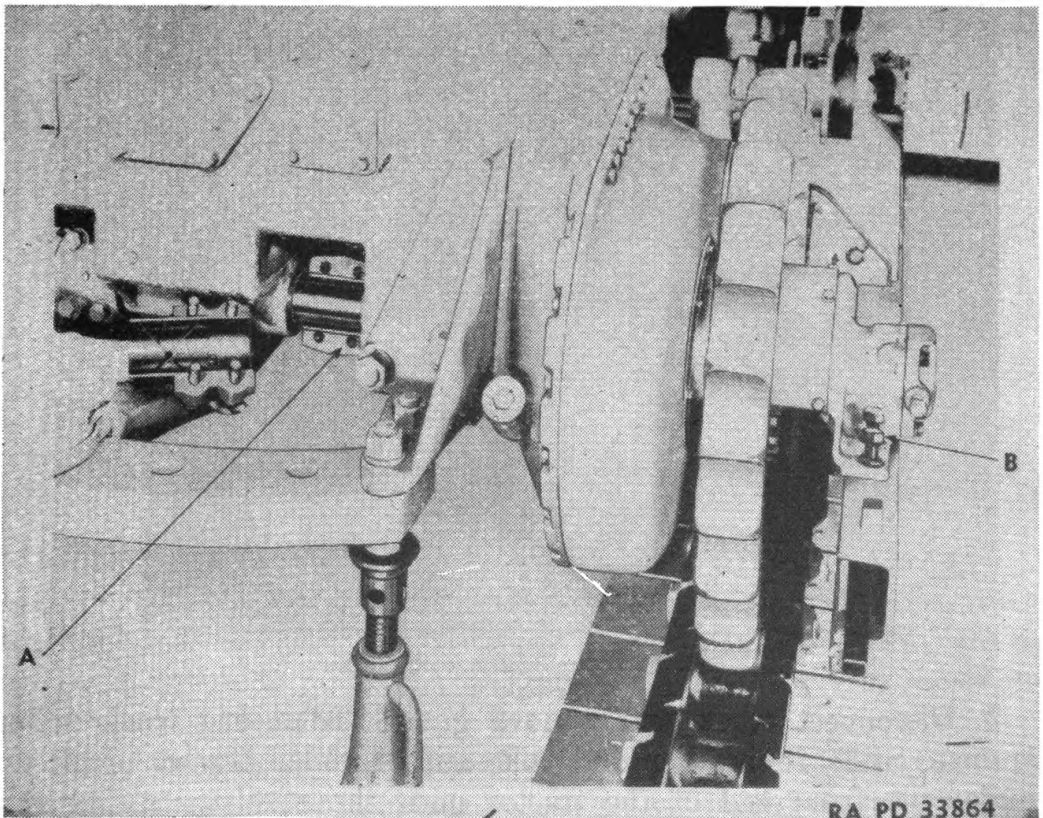

FIGURE 147.—Track frame removal.
132. Removal.—The roller frames can be removed by lifting the equalizer spring off the roller frame and disconnecting at (A) and (B) (fig. 147). As the rear end of the tractor is raised, the roller frame should be pried forward until the diagonal brace clears the inner end of the final drive shaft. The roller frame can then be swung out from under the tractor.